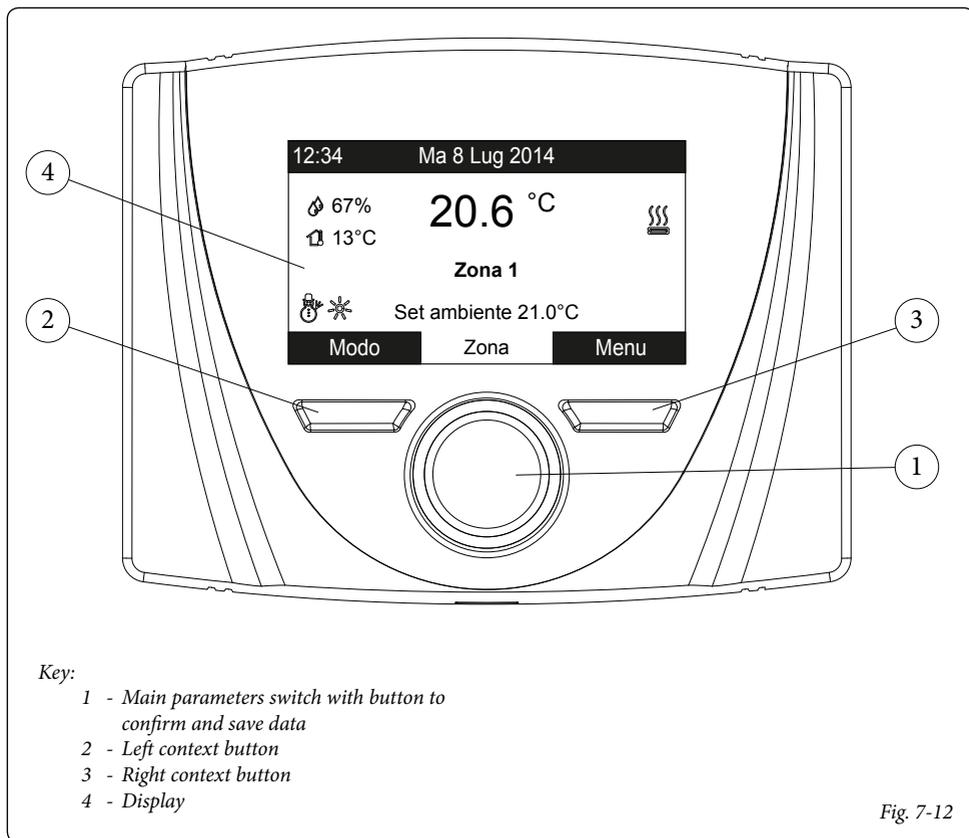

Fig. 7-12
The operation mode is general and applies to all zones, the current mode in use is displayed by the relative icon at the bottom left corner (Fig. 7-12).
When the system is associated with the external probe, the relative symbol () is displayed. From this moment, the system's flow temperature for room central heating is managed by the external probe depending on the external temperature measured. It is possible to change the operation curve by using the main switch and changing the external probe offset (Fig. 7-12).
- Press the “Menu” button (Ref. 3 Fig. 7-12), select by pressing the main selector (Ref. 1 Fig. 7-12) the item “Clock and Programs”, then “Date and time”.
- Press the “Menu” button, select by pressing the main selector (Ref. 1 Fig. 7-12) the item “Clock and Programs”, then “Time slots”.